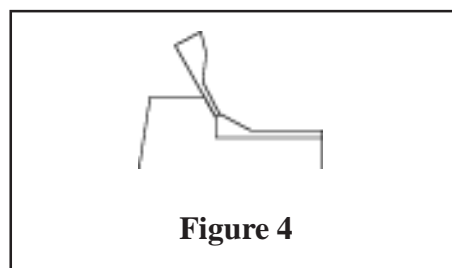

Figure 4
12. Paint the instrument panel. Generally, the panel itself is interior colour with black bezels and details. The anti-glare screen around the panel is black. When finished, glue the panel to the centre console base as shown in Figure 4.